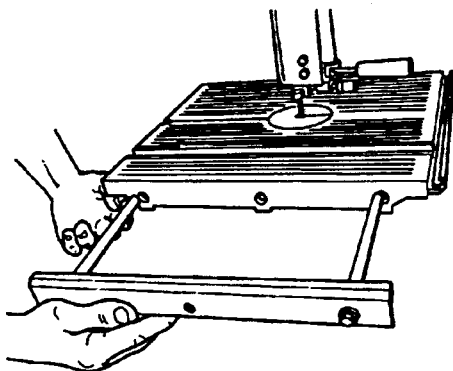

Fig. 2
3. Insert both rods (4) into the table's holes, as shown in Fig. 2, and push the extension assembly against the bandsaw table. Make sure the extension bar faces up so the top of the bar is flush with the table.